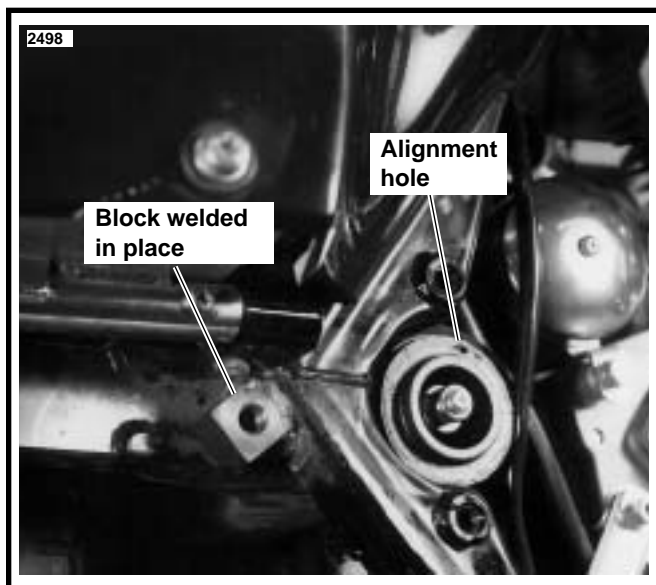

Figure 7. Frame Mounting Block Welding
9. See Figure 1. Position rear mount assembly (1) so projection in rear mount enters alignment hole in rubber mount of pivot shaft (see Figure 7) and so groove in frame mounting block aligns with frame tube. Check that
20. Weld inner edge of mounting block to frame. It may be necessary to tilt the motorcycle to the right to weld the inner edge of the block. Figure 7 shows block welded in place.